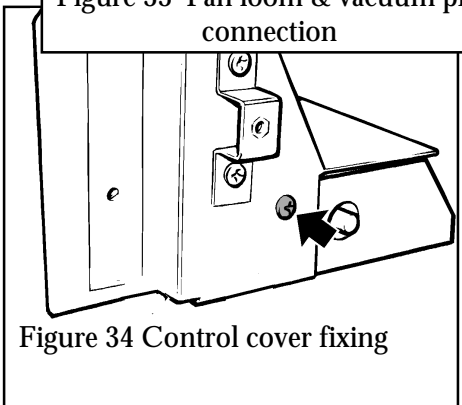

Figure 34 Control cover fixing
13.9.5 Detach the control unit cover by removing one screw (see figure 34).